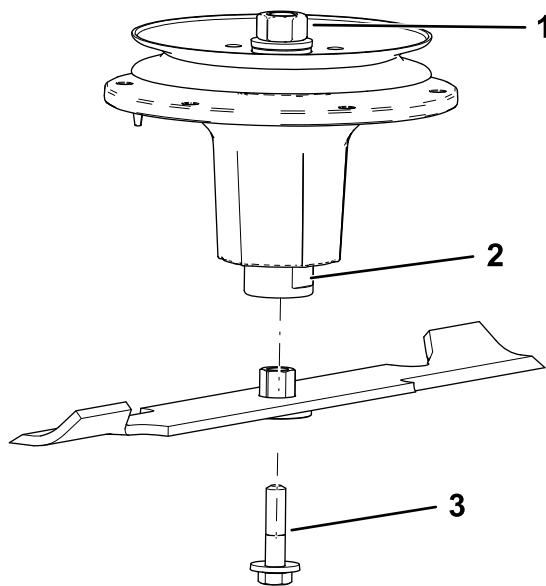

Figure 122
2. Install the bushing/blade assembly into the spindle shaft (Figure 122).